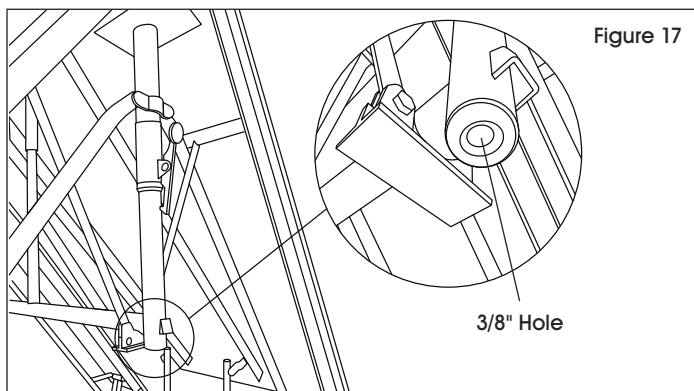

Figure 17
1. Raise table to near vertical position. (See Figure 17)
2. Locate 3/8" diameter hole in bottom of center leg. (See Figure 17)